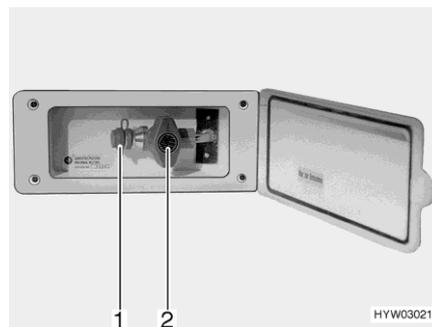

Fig. 176 External gas connection
- Connect the external gas device to the connection point (Fig. 176,1).
- Open the gas isolator tap (Fig. 176,2).